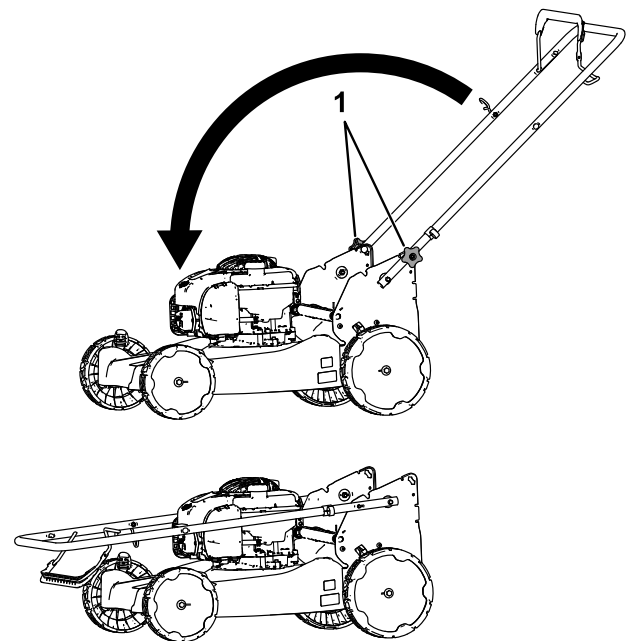

Figure 14
1. Remove and save the handle knobs and carriage bolts from the handle brackets (Figure 14).
1. Handle knobs (2) and carriage bolts (2)
2. Move the handle forward as shown in Figure 14.